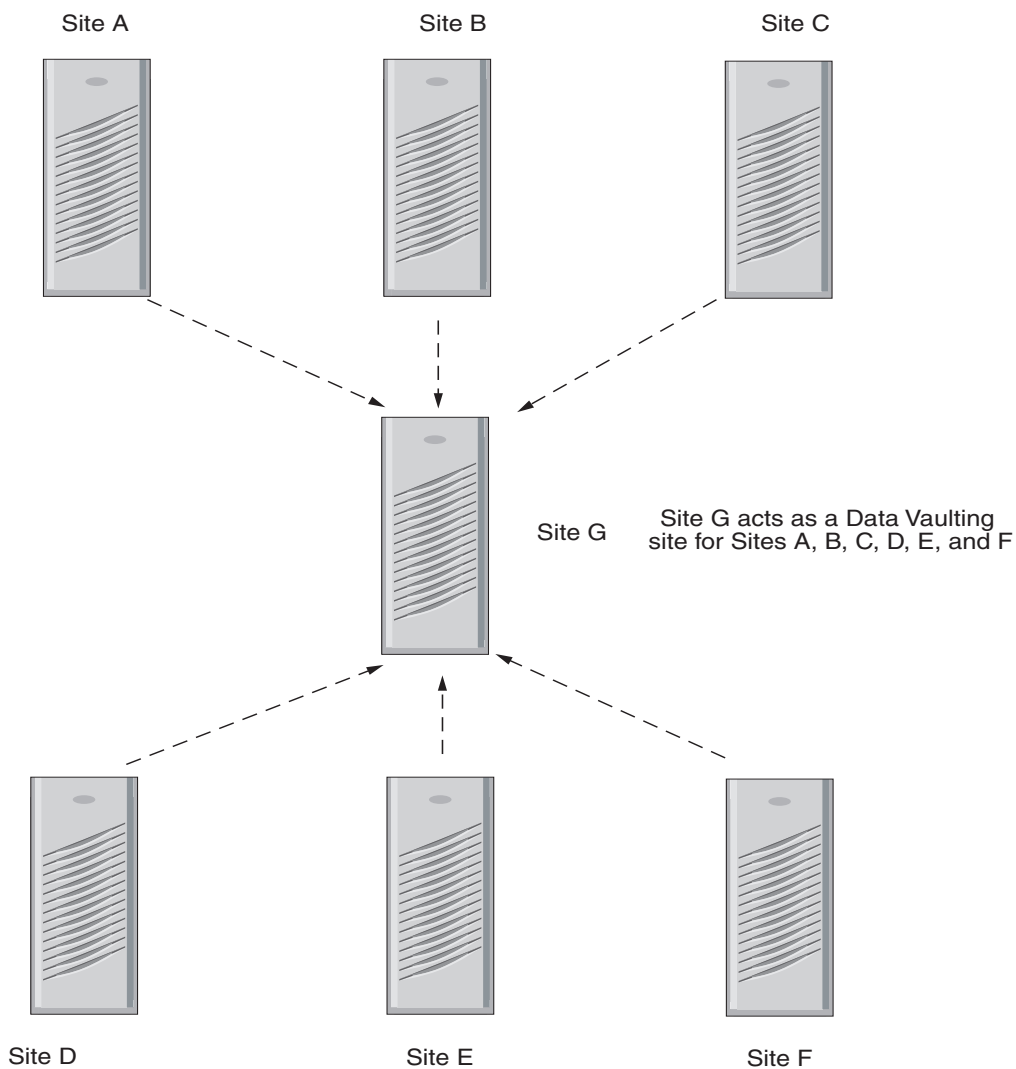

Figure 1-5 Data Vaulting Solution
In Figure 1-5, one recovery site (G) provides a data vaulting solution for six production sites (A through F).